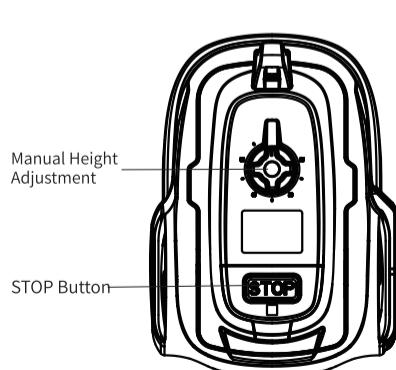

Fig.4-4
- counterclockwise to decrease the cutting height (Fig 4-4)